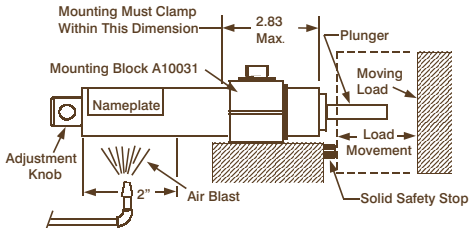

Fig. 1
End of CUSHIONEER plunger is hardened and plunger should, whenever possible, be in line with any straight moving load as in Figure 1. Align CUSHIONEER accurately with direction of load movement so that moving load contacts plunger squarely during entire stroke of plunger. For heavy impact, or for service requirements exceeding a million cycles, mount on flat surfaces with block A10031 or equivalent at either snap ring groove, or use spacer for intermediate position. Thrust is taken by snap ring furnished. Striking surface of moving load should be hardened to prevent excessive wear.
- (a) Insert rod in adjustment knob and rotate until knob slot is opposite numeral 20. See Figure 1.
To prevent seal deterioration, provide air circulation around this unit, or an air blast as shown in Figure 1 to keep the unit's temperature below 130°F. The Cushioneer is running too hot if you can't hold your bare hand firmly against it for 2 full seconds.